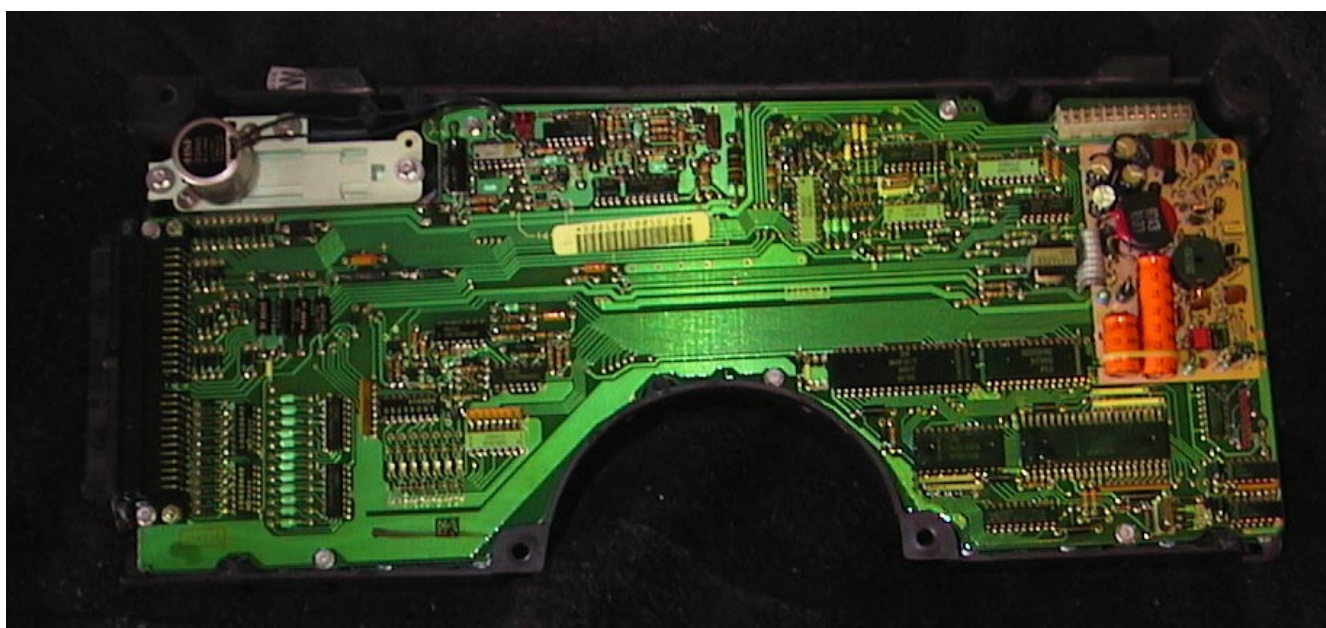

Figure 2 - Back Cover Removed
2. Remove the seven 7/32" screws holding the top circuit board to the Digital Cluster case. Two of these are found on the back side of the long black electrical connectors leading to the wiring harness. See Fig 2.